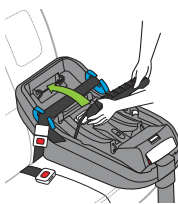

Figure 61b
- Rotate Belt Tensioner toward the back of the vehicle as shown in **Figure 61b**, and use both hands push down firmly to lock the Belt Tensioner.